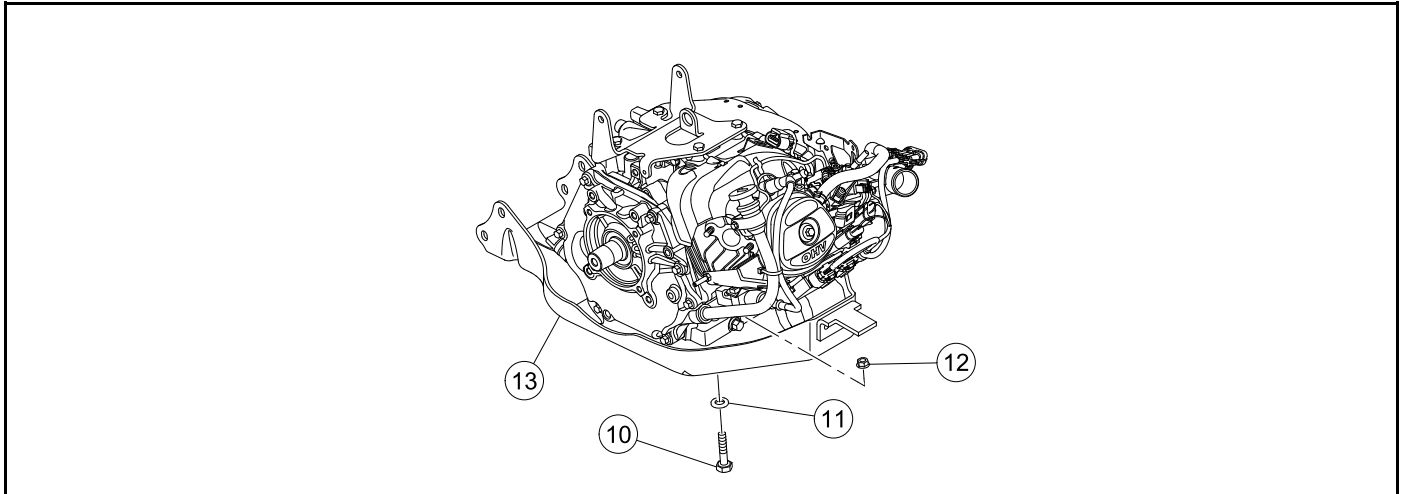

Figure 21-5 Engine Pan Installation
3. Place the engine onto the engine pan (13) and secure with mounting hardware (10, 11, and 12) (**Figure 21-5, Page 21-5**). Tighten the nuts to 33 ft·lb (40.6 N·m).